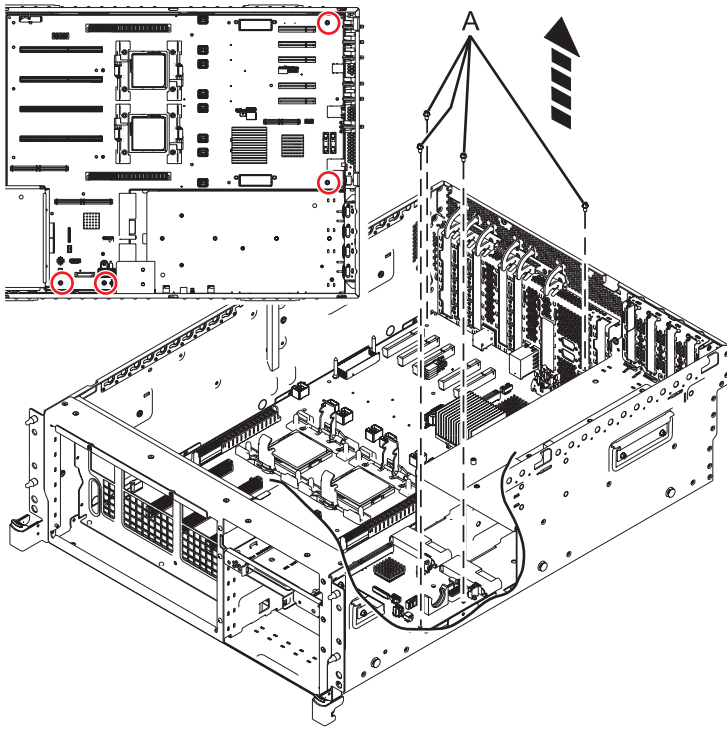

Figure 39. Removing the system backplane from the 8202-E4B or 8205-E6B
- b. Remove the four screws (A). See Figure 39 on page 64.